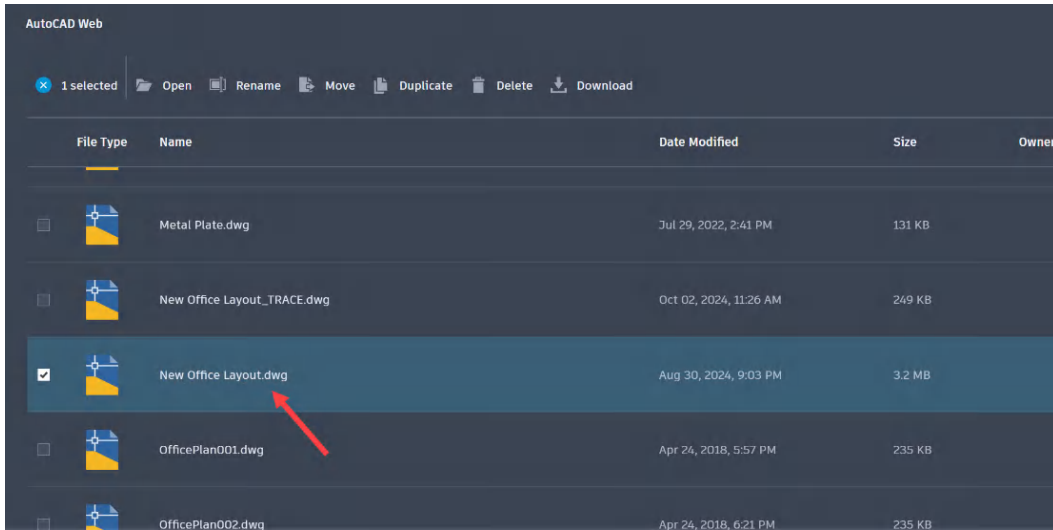

Figure 15.10: The AutoCAD Web landing page with `New Office Layout.dwg` arrowed
3. Once signed in, you will be taken to the **AutoCAD Web** landing page, as shown in *Figure 15.10*. On the left, you will see that it has defaulted to the **AutoCAD Web** setting, which means that you are looking at files in the AutoCAD Web & Mobile cloud-based folders, and in the top-right corner, you will see your profile photo displayed. It is quite small, but it allows you to confirm you are using your Autodesk account. Scroll down the list of drawing files to locate the `New Office Layout.dwg` file.